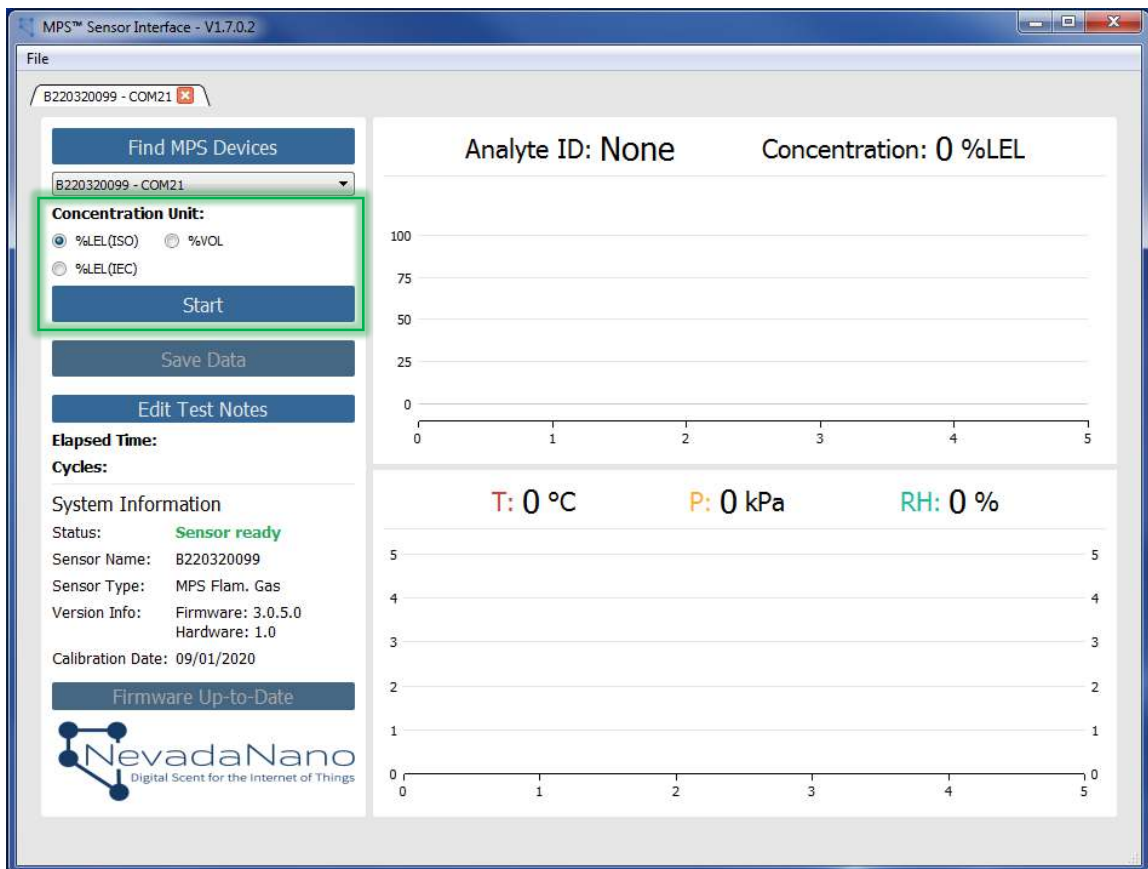

Figure 6 – MPS™ Flammable Gas Sensor Evaluation Software ready for testing. Sensor name is populated and start button is enabled.
1. After performing system setup, the concentration unit selector and start button will be enabled (highlighted in green in Figure 6). IMPORTANT: Start the flow of zero-air baseline gas over the MPS Flammable Gas Sensor and wait ~1 minute for baseline gas to replace ambient air before proceeding. Select the desired concentration unit (%LEL(ISO), %LEL(IEC)2, or %VOL) and click Start to begin data acquisition. Once the test starts, the concentration unit cannot be changed until the test finishes.